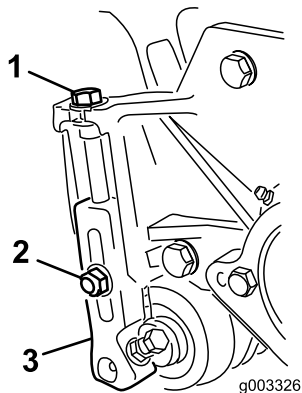

Figure 23
1. Loosen locknuts securing height-of-cut arms to cutting unit side plates (Figure 23).